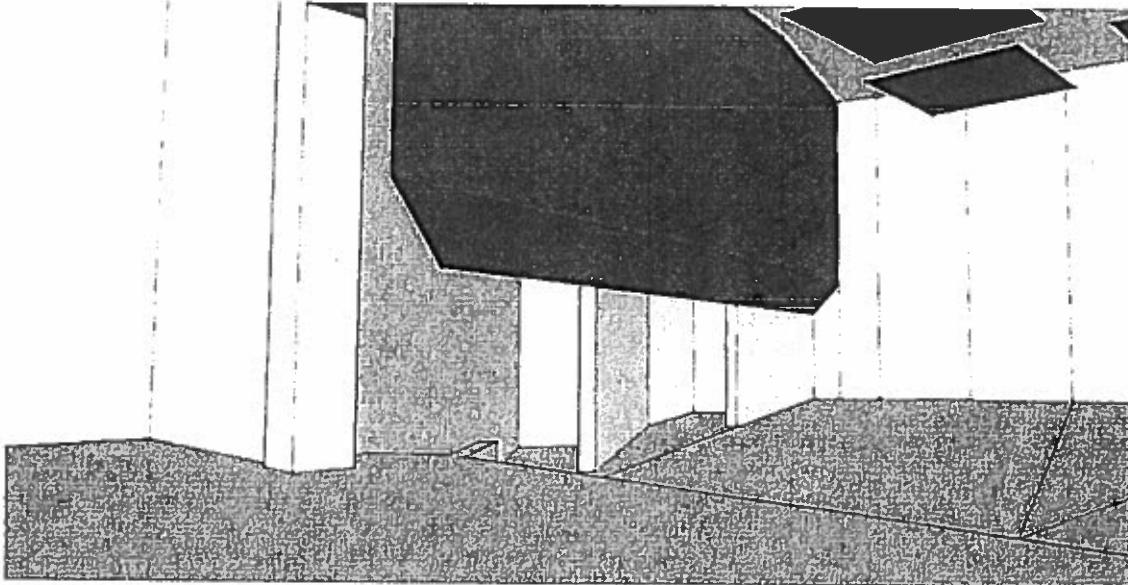

Figure 1: Auditorium sidewalls, "boxed in" to square the sides, including an angled reflector at the bottom.
- **Box in the fanned sidewalls, with an angled bottom to reflect sound to the seats.** This will bring the overall geometry of the hall closer to the preferred "shoebox" shape. An angled bottom will provide side reflections without having to redesign the current doors. (See Figure 1.)